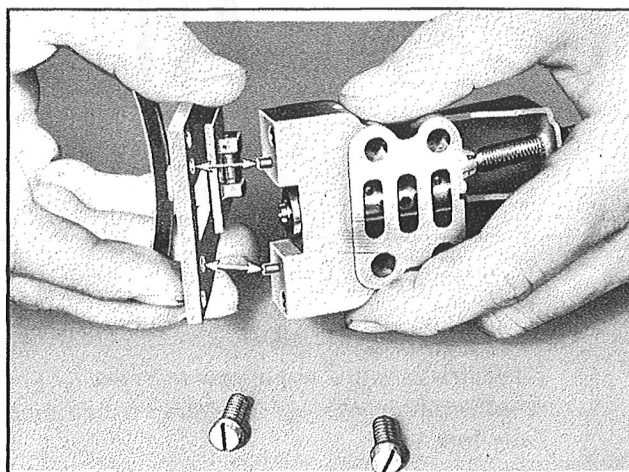

Figure 207—Assembly of the Governor
*Step 7.*—Install the ways plate on the dowels in the governor body with the roller to the piston lever, and secure with the 10 x 24 fillister head screws. See Figure 207. Tighten the screws and safety with .032" wire.